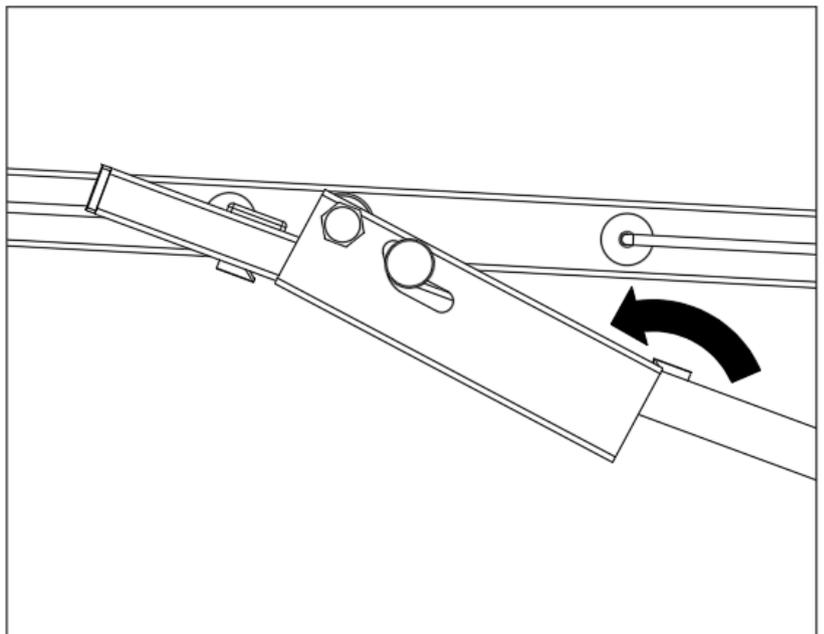

Fig 11. Catch jumps over protrusion.
- Keeping an eye on the catches, lift until each catch has jumped over the top protrusion on the stay. (Fig 11)